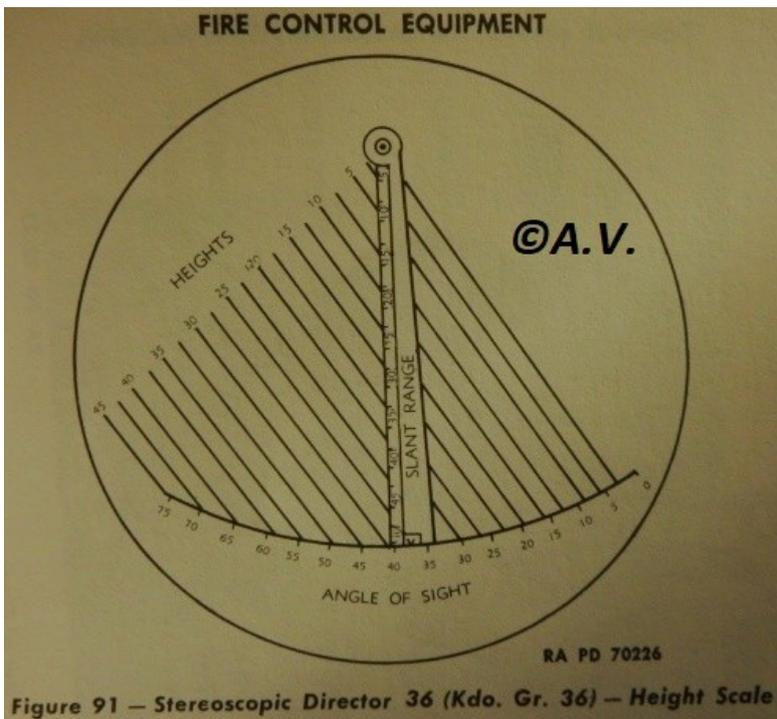

Figure 91 — Stereoscopic Director 36 (Kdo. Gr. 36) — Height Scale
**b. Range Finder (Em. 4m. R. (H) ).**
(1) The 4-meter base stereoscopic range finder (Raumbildentfernungsmesser (Höhe)) adapted for height finding has magnification of 12x and 24x and a range scale reading from 500 meters (550 yd) to 50,000 meters (55,000 yd). It is clamped by two rings to the director for use and in travel is carried in a chest fitted with hand grips.
(2) A device for obtaining approximate height is fitted on the right end of the range finder tube. This consists of an arm pivoted at one end and engraved with a scale of ranges. A series of parallel lines graduated to the value of height are engraved on the disk to which the arm is pivoted. As the instrument is elevated, the disk carrying the scale rotates with the instrument. The arm, however, remains vertical, and the height line corresponding to the range on the range arm indicates target height (fig. 91). ©A.V.
(3) Two tracking telescopes are fitted on the range finder tube to the right and left of the stereoscopic eyepiece. These are employed for keeping the range finder on the target and have a cross wire reticle pattern.
(4) The range finder is turned in elevation by rotation of the elevating handwheel which is connected by gearing to a gear between the range finder tube and the left bearing ring.
(5) An optical lath is provided. When it is suspended on the supporting brackets, it provides an artificial infinity for test and adjustment of the range finder.